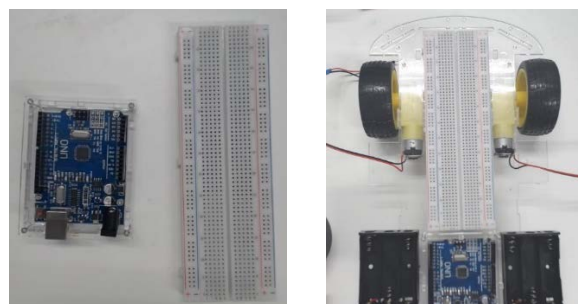

Fig. 8
5.2.1. Put breadboard and the Arduino UNO labelled as “4” on the car board as shown in Fig. 8.